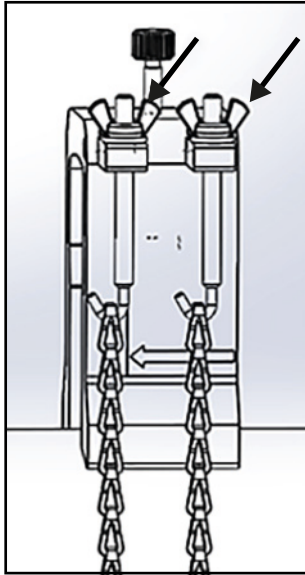

Figure 31: Secure the Yoke
7. Tighten the nuts to secure the yoke to the pipe (see *Figure 31* below).